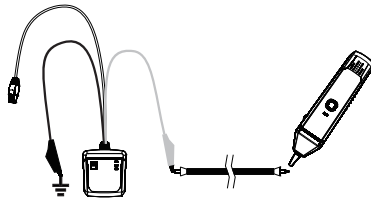

Figure 2. Tracing cables
6. Tracing cables (see Figure 2)